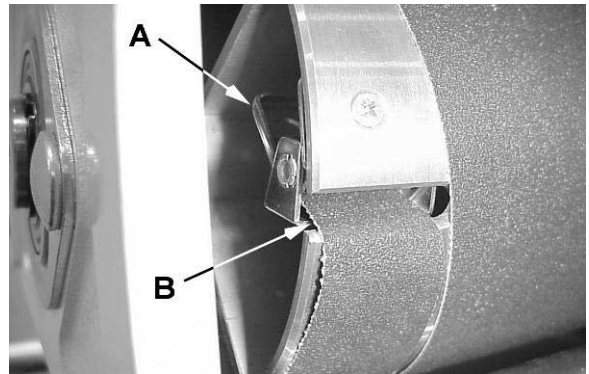

Figure 9
3. Squeeze the *fastener lever* (A, Fig. 9) on the outboard end of drum, and insert the tapered end of the *abrasive* (B, Fig. 9) so that it uses most of the width of the slot. Release the fastener lever to securely hold the strip end to the fastener.
4. The square edge of the abrasive strip should follow the edge of the drum, as shown in Figure 9.